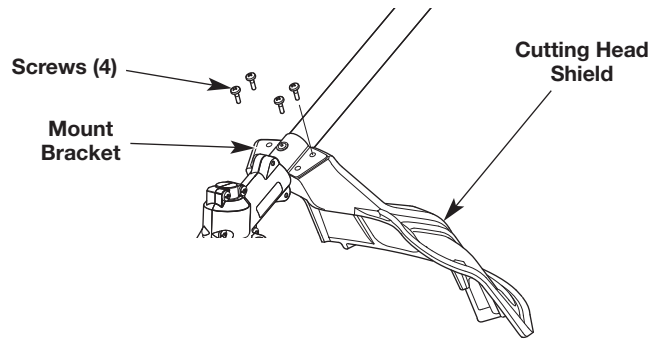

Fig. 1
1. Place the cutting head shield under the mount bracket. Align the holes in the cutting head shield with the holes in the mount bracket. (Fig. 1)